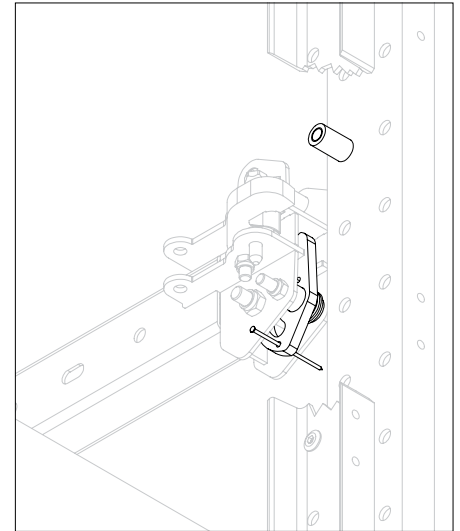

Fig. D4.04a
2. Deactivate all pawls of the Slab Shoe of this climbing unit. See Section "Activating and Deactivating the Climbing Pawl" on Page 113. (Fig. D4.04a)